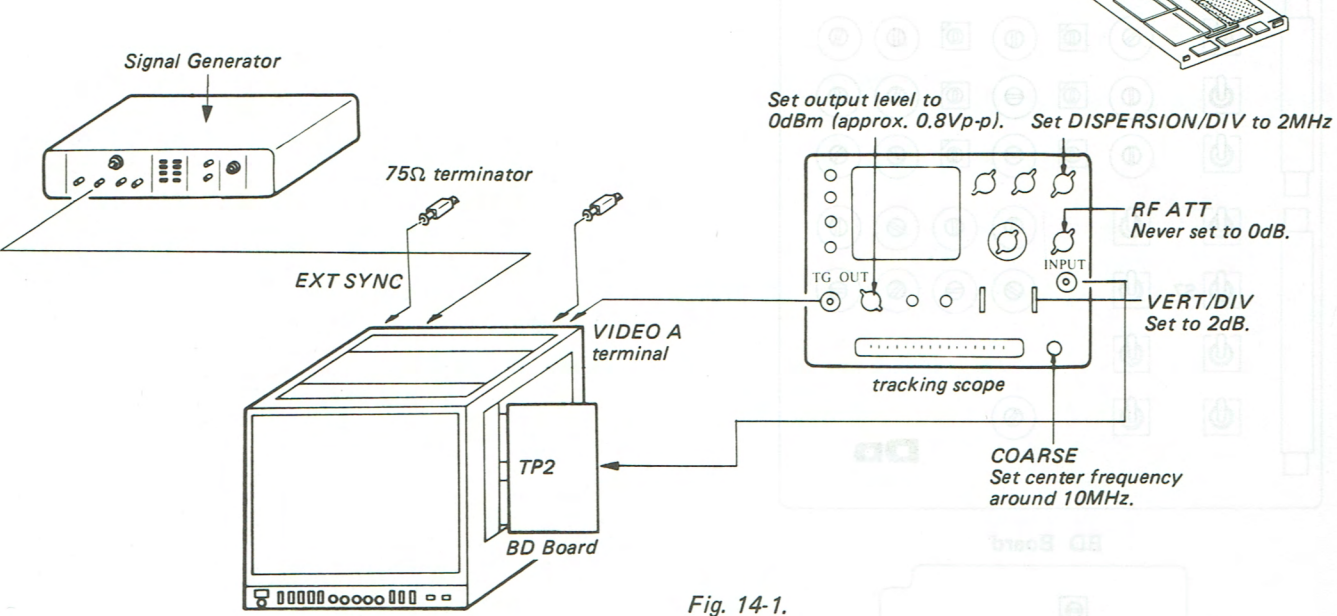
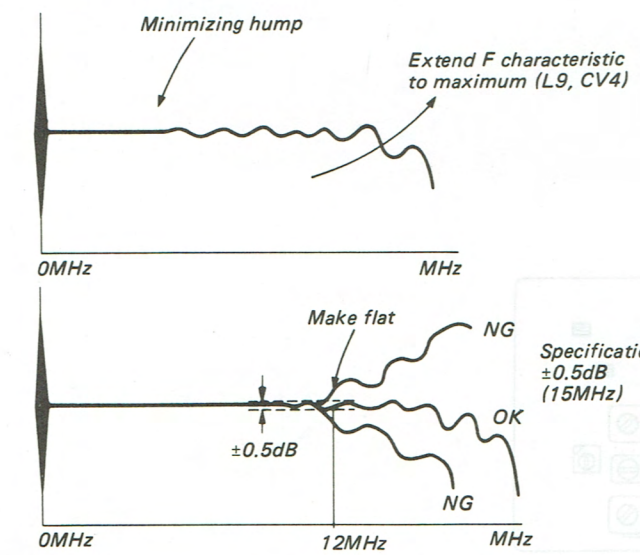

Fig. 14-1.
Fig. 14-2.
1. Connect as shown in Fig. 14-1.
2. Switch on the set. Set INPUT switch to A, SYNC switch to EXT and MODE switch to B/W. Set S1 (B), S2 (G) and S3 (R) on DD board to OFF.
5. Turn CV3 on BD Board and flatten the F characteristics. Refer to Fig. 14-2.